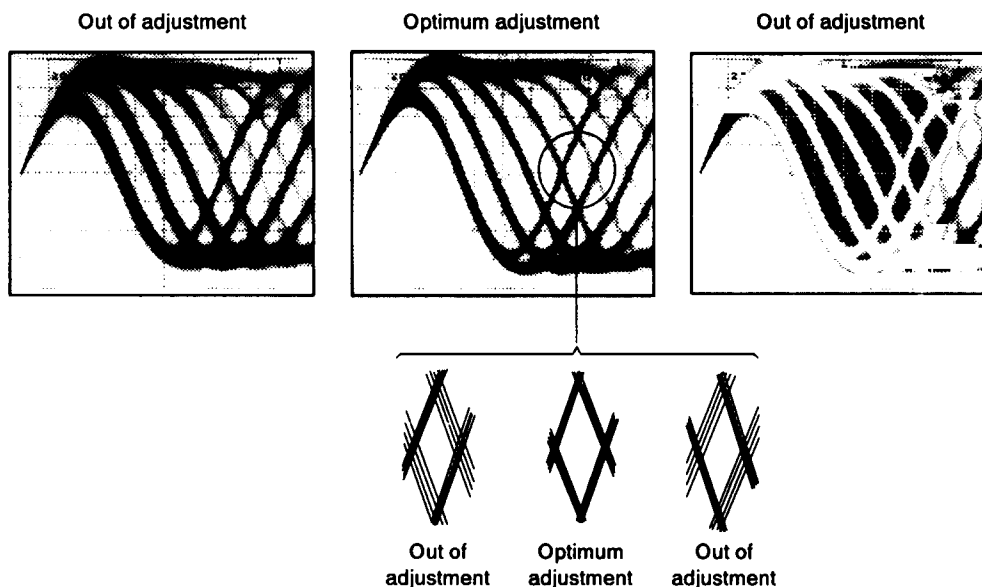

Figure 3. Eye pattern
3. Next, adjust the tangential tilt adjustment screw with a Phillips screwdriver so that the eye pattern (the diamond shape at the center of the RF signal) can be seen the most clearly (Figure 3).